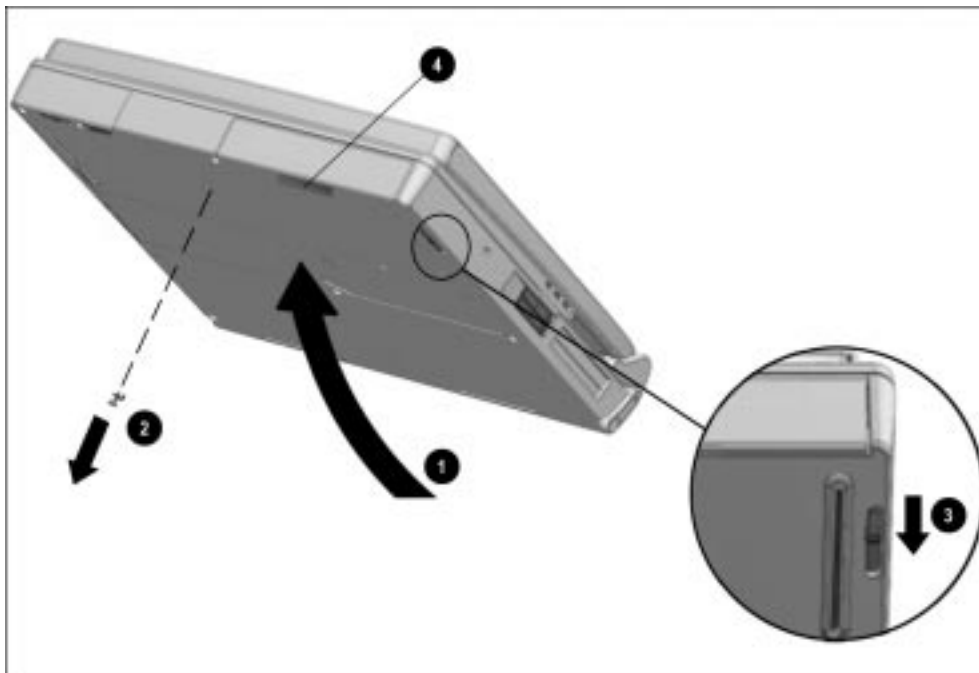

Figure 5-10. Releasing a Battery Pack from the MultiBay
2. Tilt the computer at an angle ❶ so the bottom of the computer is accessible (Figure 5-10).
3. If the battery pack has been secured in the MultiBay with a single- or dual-bay security screw ❷, remove the screw with the security wrench included with the computer.
4. Slide the MultiBay release latch toward the rear of the computer ❸.
5. Grasp the battery pack using the recess ❹ beneath the MultiBay.